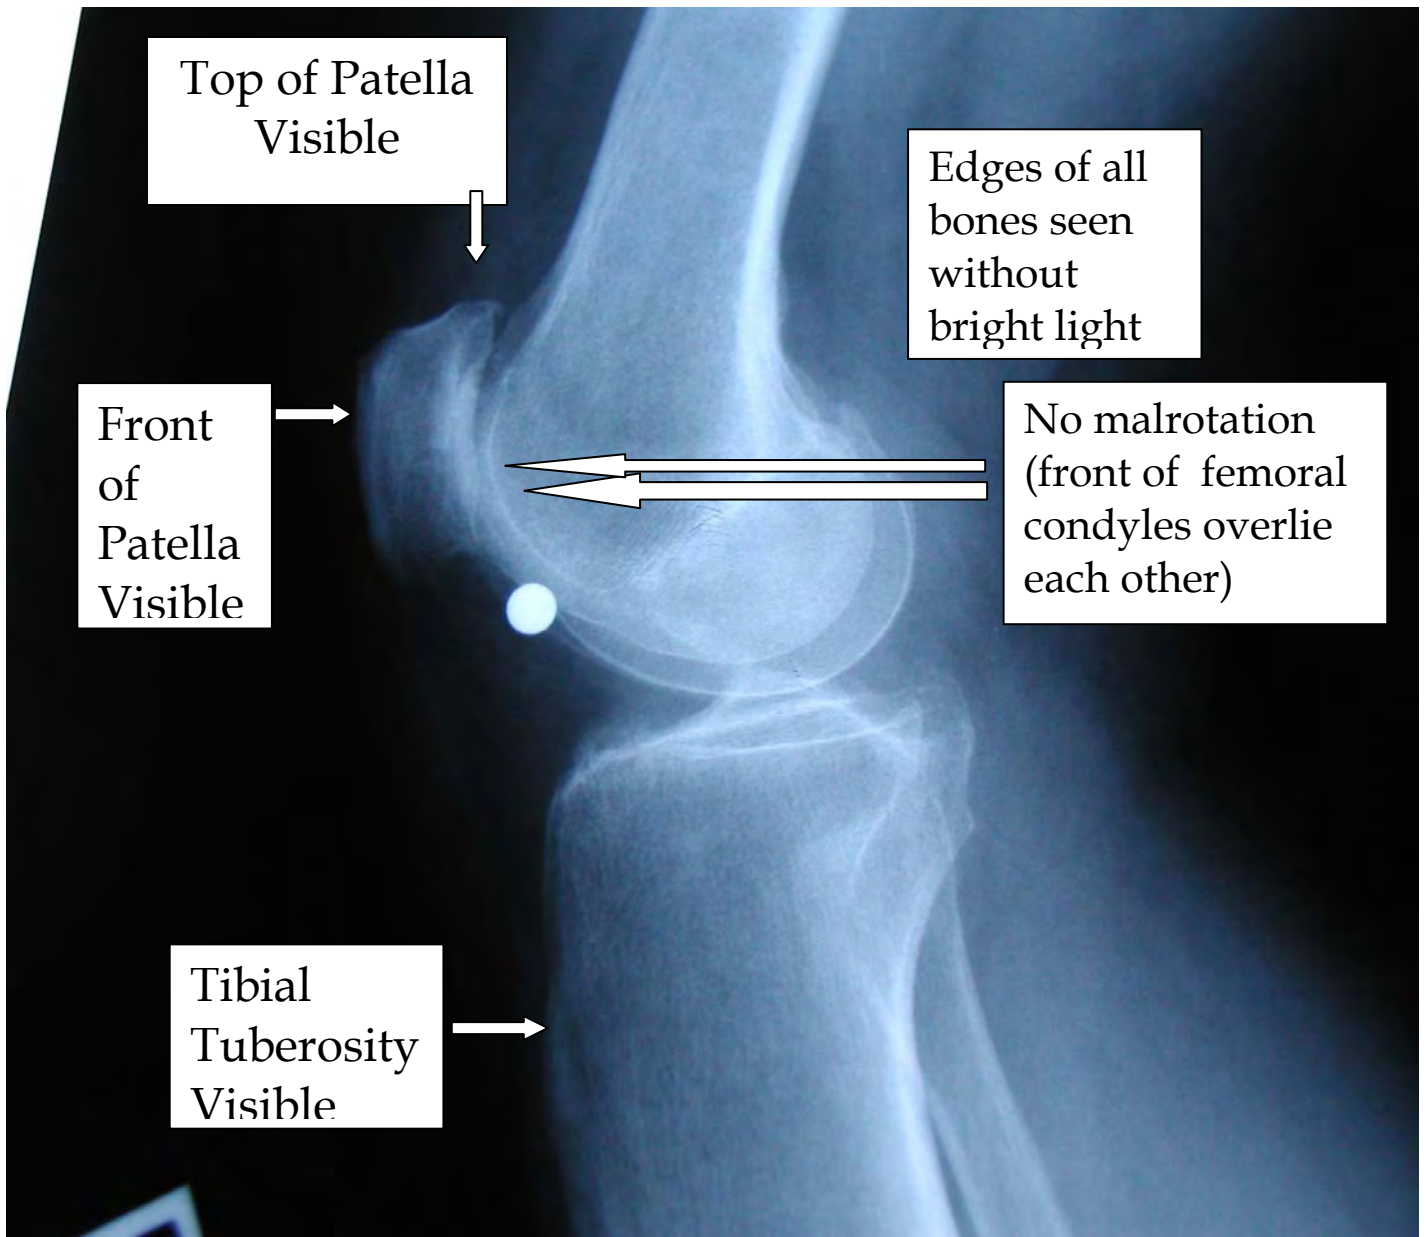

Figure 4
- a. For these x-rays to be acceptable, all of the following structures need to be fully visualized. Figure 4 below is acceptable:
- b. If positioning is correct, (see Figure 4) the contours of the front edge of the medial and lateral femoral condyles should nearly overlie one another or be superimposed.